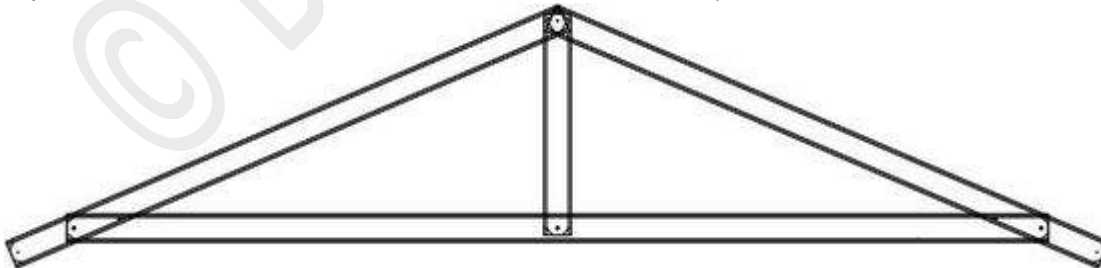

Figure 5.8 Saddle Truss
5.10) Saddle Truss: A-truss with the top chords cut at the heel to form a foot cut. It is used to form a valley line when two roof planes intersect. Saddle trusses are supported by trusses or rafters below. (Refer to Figure 5.8.)